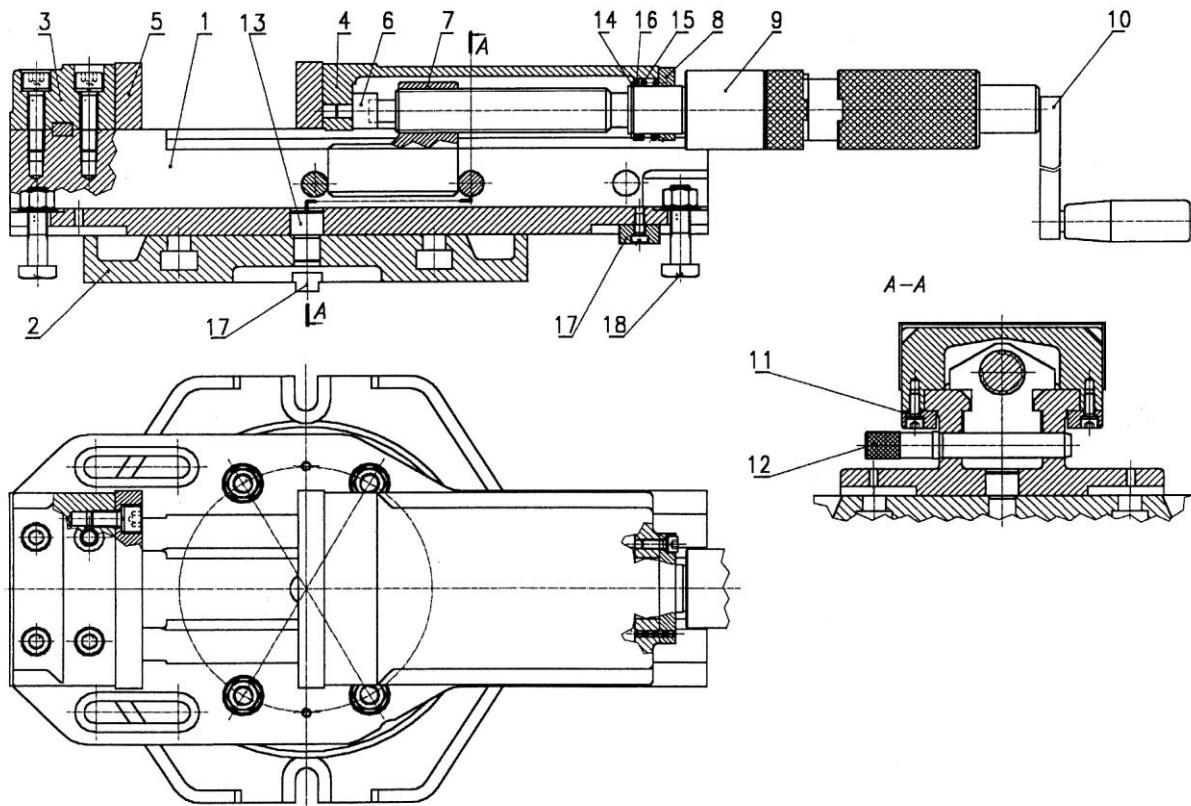

Fig. 1. Structure of the vice 6516-M with 6585 support.
3. STRUCTURE OF THE VICE (Fig. 1)